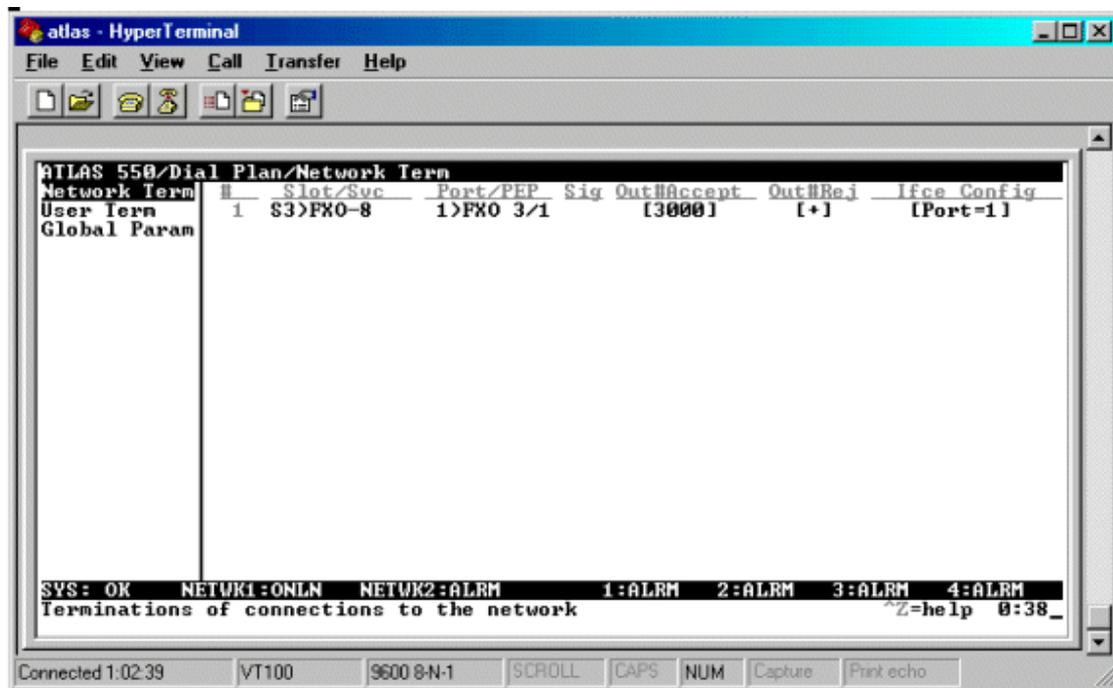

Figure 10
The **Dial Plan** will contain the configuration necessary to compress and uncompress the voice as well as route the voice calls based on the digits dialed. First we will configure the FXO module that will connect to the PBX. This needs to be configured in **Dial Plan/Network Term** as shown in **Figure 10**.
- Press >esc<: until you are back to the screen shown in **Figure 10**.